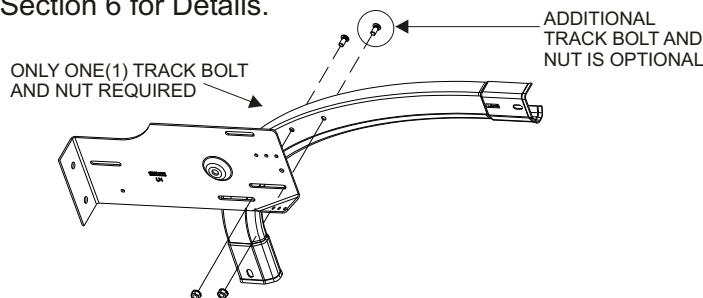

FIGURE 4
3. Assemble the low headroom headplate to the transitional curve using two track bolts and nuts from the inside of the track through the top round holes on the curve (loosely tighten). (See Figure 4)